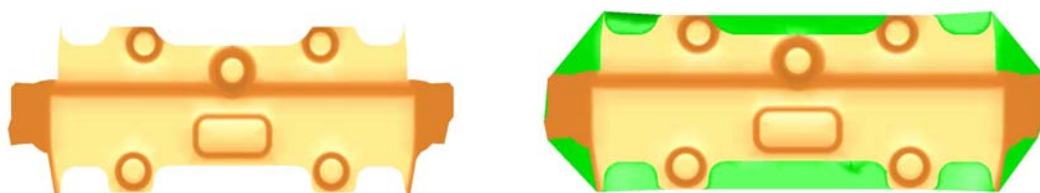

Figure 6.1.36 An illustration of a roller operation
2. The UNDO function is used to remove the filled mesh in the gap and allow the user to go back to the original part. Figure 6.1.36 illustrates the result of a typical roller operation.